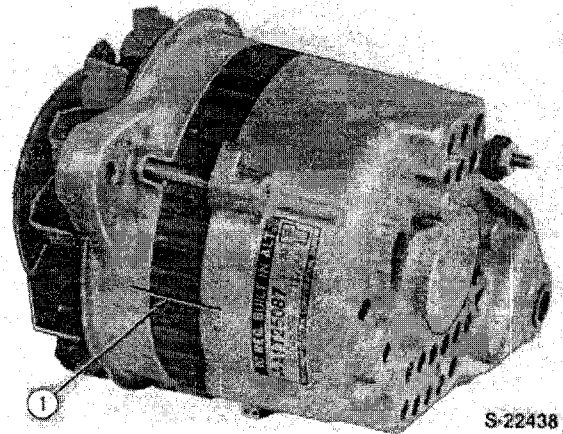

Figure 78
1. Mark both brackets and the stator with a scribe mark for assembly, Figure 78.